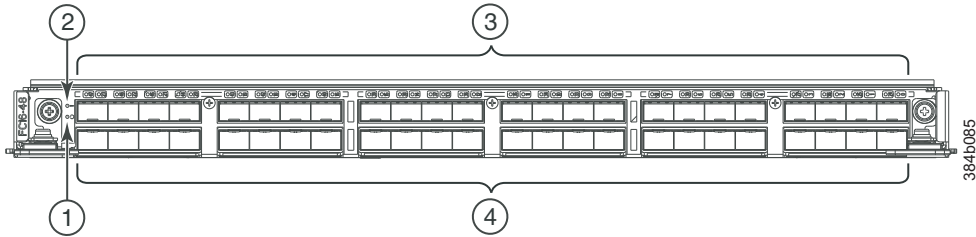

Figure 60. FC16-48 port blade
- Figure 60 on page 170 shows an FC16-48 port blade